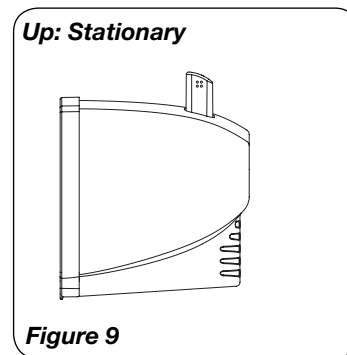

Figure 9
5. **OSCILLATION:** Push down oscillation knob on motor housing to make fan head move from side to side. (Figures 9 and 10)